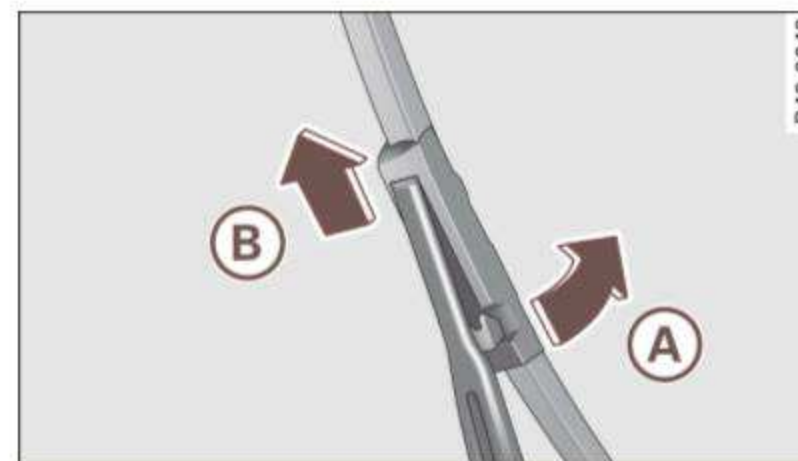

Fig. 53 Removing wiper blades
- Rotate the wiper blade in the direction of the arrow (A) ⇒ fig. 53 away from the wiper arm.
- Lift the wiper blade off in the direction of the arrow (B).
- Place the rounded end of the wiper onto the end of the wiper arm in the **opposite** direction to the arrow (B) ⇒ fig. 53.